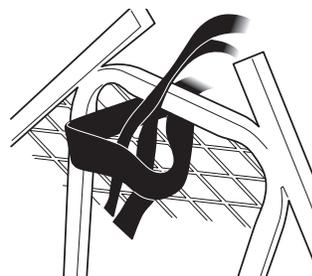

Figure 3A
4. If included, attach backpacking straps (48067) at desired location on platform. Fold strap in half. Feed folded strap through platform mesh. Feed the two loose ends of strap through folded loop and pull tight forming a cinch knot. **SEE FIGURES 3A AND 3B.** Feed straps through platform mesh and secure with provided tri-slide buckles. **SEE FIGURES 3C.**